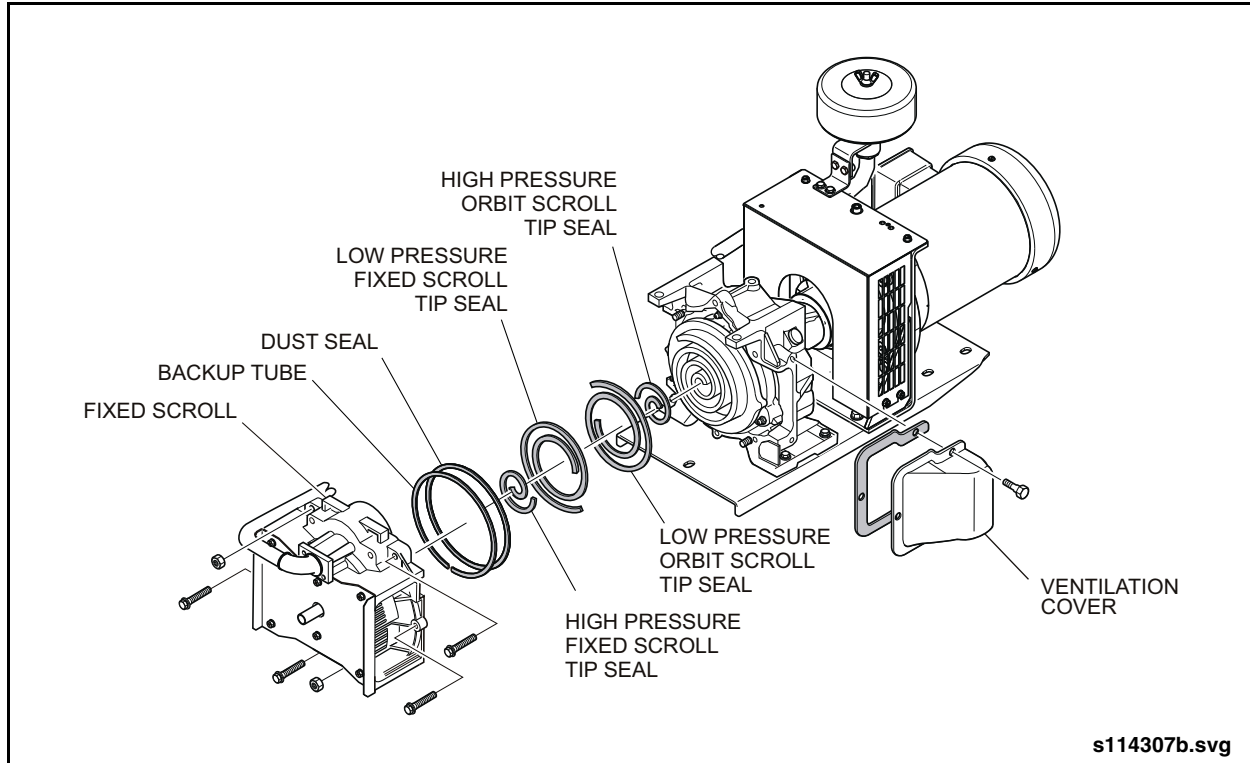

Fig. 4: Scroll Compressor Assembly
2. Remove the hardware from fixed scroll assembly and separate from orbital scroll assembly. See “Fig. 4: Scroll Compressor Assembly” on page 6.